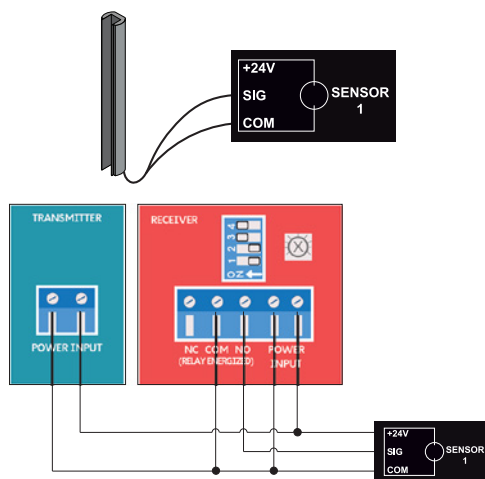

Figure 6. Bundled Sensor Connections
4. Install the wires into input Sensor #1, Sensor #2, or Input #1, Input #2, or Input #3 on the SmartTouch 720/725 Controller (Figure 6).
Additional photo eyes can connect to the SmartTouch 720/725 Controller terminals Sensor #1 - #2 and Input #1 - #3. Follow the same instructions for an edge sensor (Figure 6).